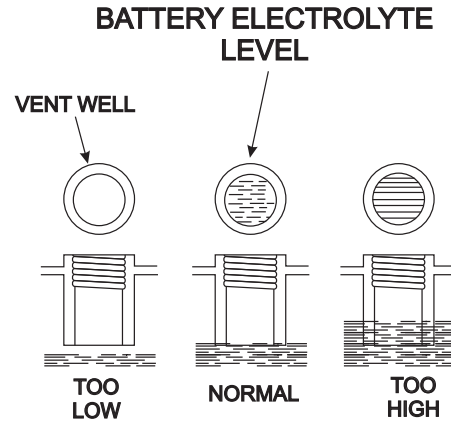

Figure 21. Battery Electrolyte Levels
- Check the battery regularly and make sure that each electrolyte level is to the bottom of the vent well (Figure 21). If necessary add only distilled water in a well-ventilated area.